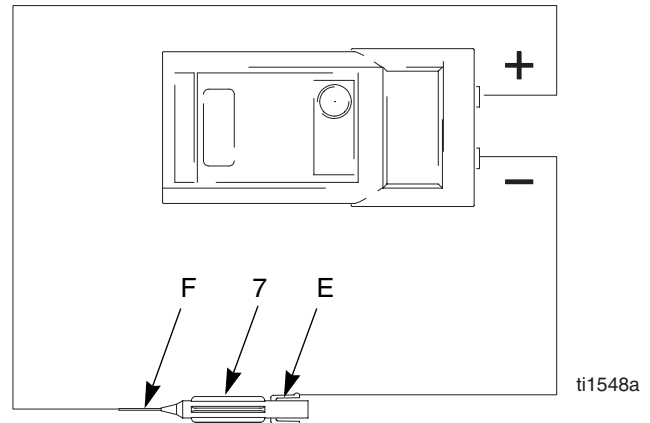

Fig. 20. Electrode
4. Remove the electrode (7), page 46. Measure the resistance between the contact (E) and the electrode wire (F). The resistance should be 20-30 megohms. If out of range, replace the electrode. See FIG. 20..